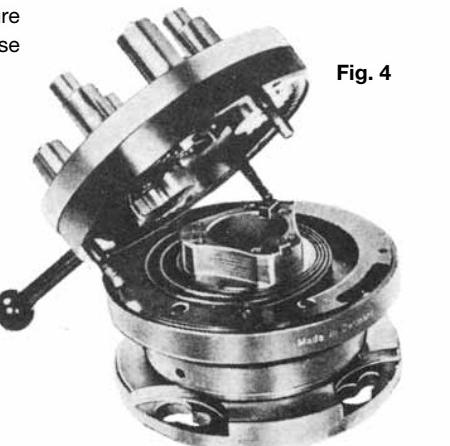
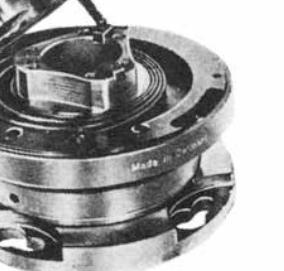

Fig. 3
Fig. 4
- The gears are to be brought into engagement (fig. 3), attention is to be paid to uniformness and perhaps marking "0" is to be noted. Gearing to be brought into approx. centre position.
- Assembly group (fig. 3) to be put on Lower Assembly Group (fig. 4). The "0" marking has to be in the area of the Guide Scale. Care should be taken to ensure that there is no gap within the ball track, because otherwise the Ball Bearings could drop out.